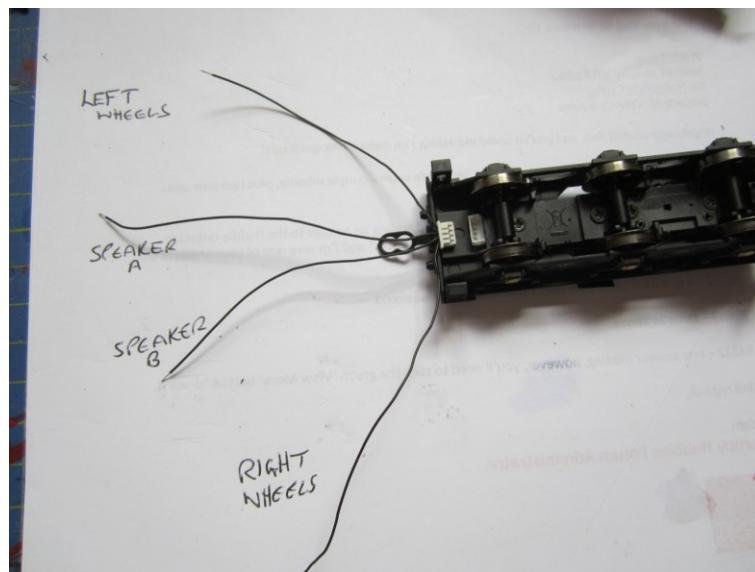
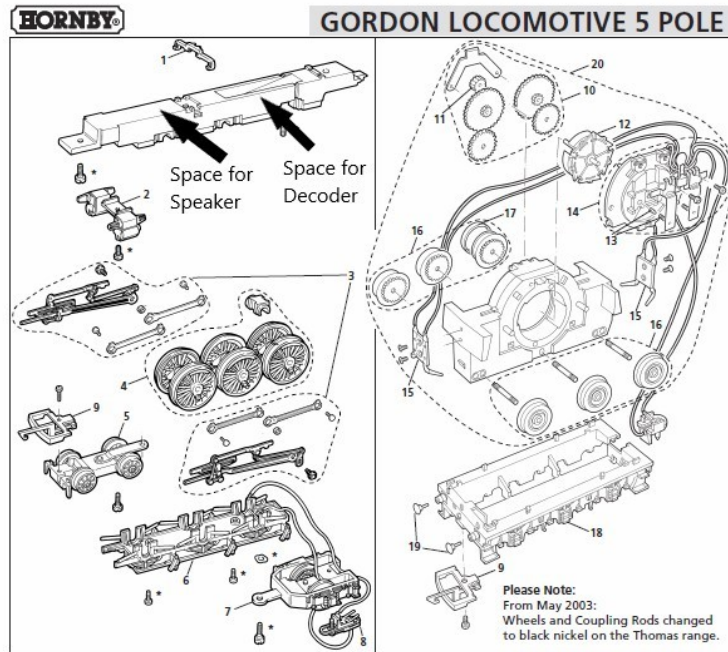

Figure 18 – Passing Power between Loco and Tender
Figure 19 – Tender Driven Gordon
Figure 18 shows a modification where a loco socket (not illustrated) is used to mount the TTS decoder and by way of an X6311 plug and socket passes the speaker feeds across to the tender and similarly passes the tender pickup feeds back to the loco. This also allows a modeller to get rid of the troublesome post and fingers powered drawbar (see item 8 on the Gordon service sheet in Figure 19 - a typical powered drawbar example) in favour of a simple fixed unpowered drawbar shown below.
Gordon is a typical tender drive loco and there should be room for a DCC socket and cube speaker to sit on the chassis block as seen in Figure 19.